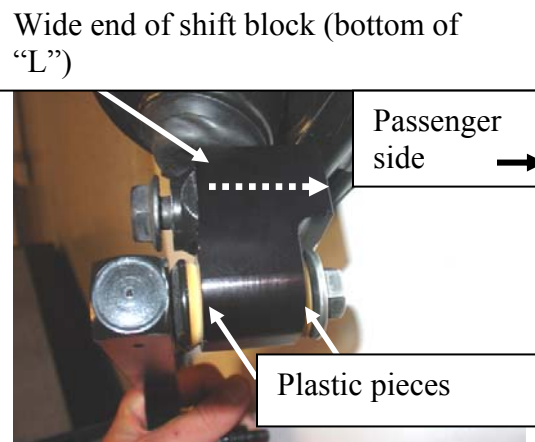

Figure 3
6. Obtain the two yellow plastic inserts that went into the bottom of the shift lever. Insert the plastic pieces into each side of the narrow end of the shift block. (**Figure 3**)
7. Insert the stud protruding from the arm that connects to the transmission into the narrow end of the shift block, through the plastic pieces; note the “L” shape of the quick shift block points at the passenger side of the car (**Figure 3**)
10. Line up the shift block with the bottom of the shift lever (**Figure 3**).